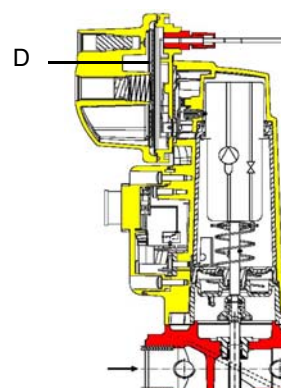

Fig. 11
**⚠ Caution:** the SKP2 diaphragm **D** must be vertical (see Fig. 11).